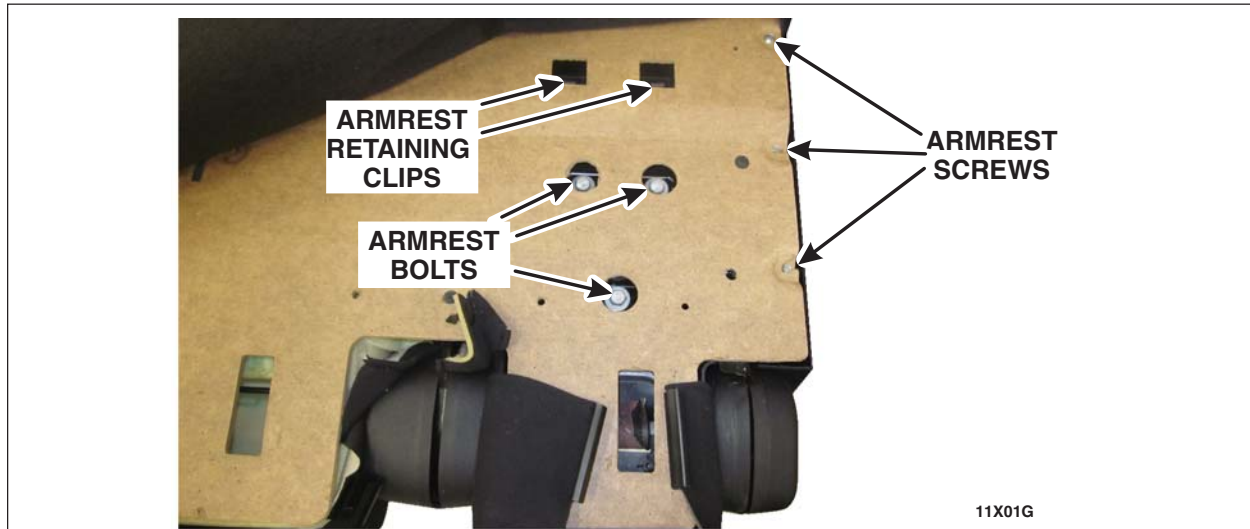

FIGURE 8
18. Remove the 3 armrest screws. See Figure 8.
19. Remove the 3 armrest bolts. See Figure 8.
20. Using a suitable tool, release the 2 armrest retaining clips from the seat backrest. See Figure 8.
49. Install the armrest to the seat backrest. Engage the 2 armrest retaining clips to the seat backrest. See Figure 8.
50. Install the 3 armrest bolts. See Figure 8.
51. Install the 3 armrest screws. See Figure 8.